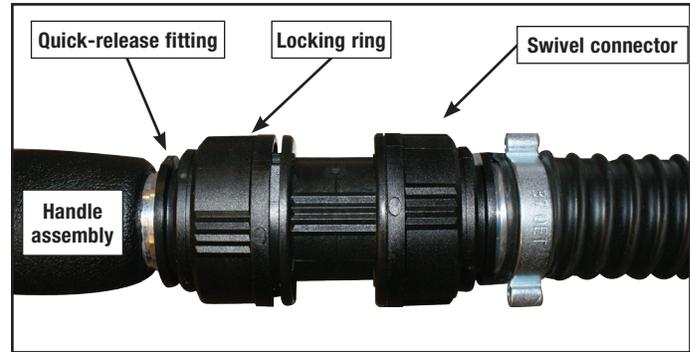

Figure 2. With locking ring unscrewed (as pictured) depress quick release ring then pull quick-release fitting toward hose.
1. Leave the locking ring open (unscrewed) as shown in Figure 2. If the locking ring is in the closed position, rotate the locking ring on the swivel connector
- (Figure 2) counterclockwise 180° until it clicks.
1. Rotate the locking ring on the swivel connector (Figure 2) counterclockwise 180° until it clicks.